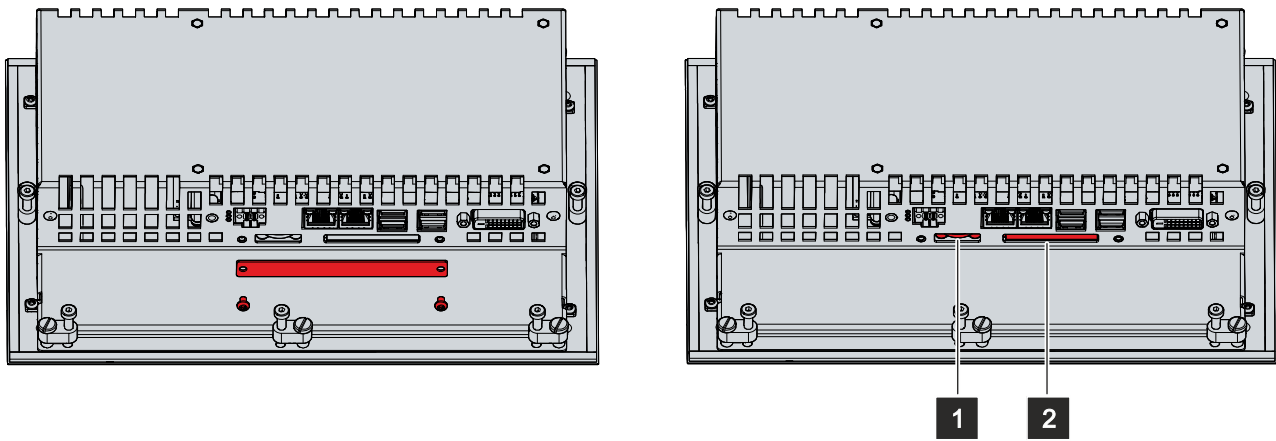

Fig. 21: Access to battery and storage medium
To be able to replace the battery and the storage medium, you must first gain access to these device components. The battery and storage medium are accessible from the bottom of the panel PC. The device components are located behind a cover. Loosen the two M3 screws to gain access to the battery (1) and storage medium (2) (see Fig. 21).